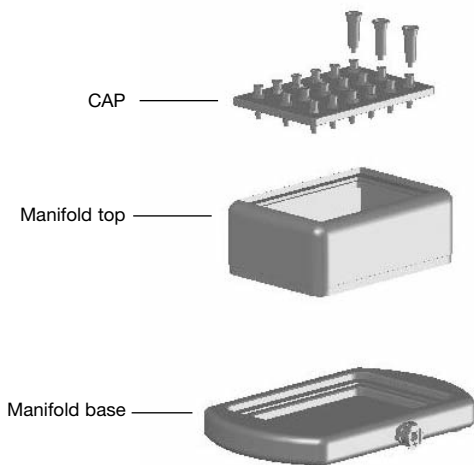

Fig. 2. Manifold setup for column processing.
Manifold Wash Setup (Figure 2)
1. Attach an Aurum total RNA binding column to a luer fitting of the column adaptor plate on the Aurum vacuum manifold or to a compatible vacuum manifold. Refer to Figure 2 for setup. The vacuum source should be turned off and the vacuum regulator should be completely open.